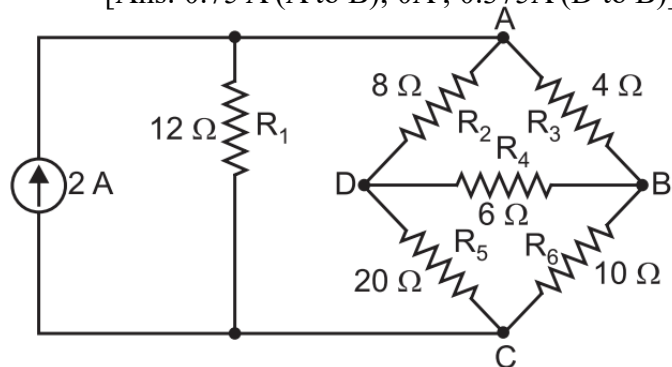

Fig. 2.4
4. Using mesh current method, find the currents in resistances  $R_3$ ,  $R_4$  and  $R_5$  in Fig. 2.4.